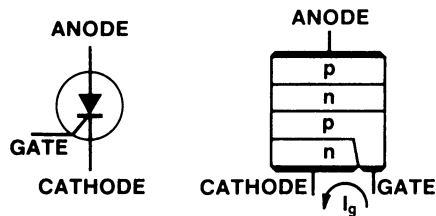

Fig. 7-14 Layer construction of the SCR.
Construction of the SCR Construction details of a component provide information about how the component will operate. Solid-state devices are made by joining P and N material into junction or junctions. Bipolar transistors, diodes, and FETs (field effect transistor) are all constructed this way. The SCR is made by joining four alternating layers of P and N material. Most SCRs are made of silicon, but germanium is also used (Fig. 7-14).
In Fig. 7-14, note how the layers of P and N material are sandwiched together. Also note the three junctions. Leads for external connections are attached to these layers. These three connections are called the anode (A), cathode (K), and gate (G).